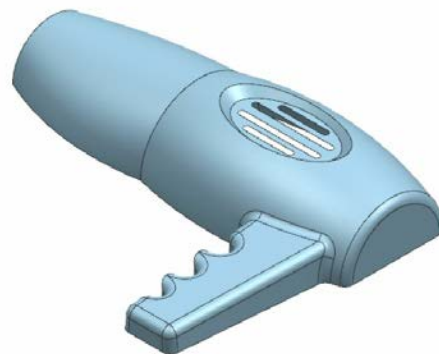

Figure 11-115 Surface model after adding blends
5. Add blends at the required places of the surface model. For dimensions, refer to Figure 11-89(a). The model after adding blends is displayed in Figure 11-115.